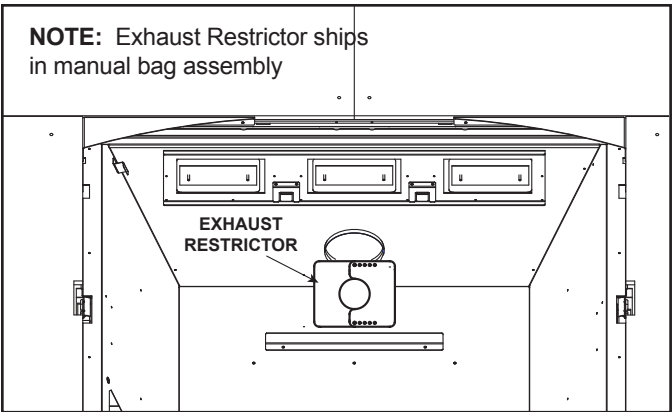

Figure 4.13 Exhaust Restrictor Installation
5. Center the two exhaust restrictor pieces on the vent at the setting selected in step 3 and secure in place by using two self-tapping screws. See Figure 4.13.